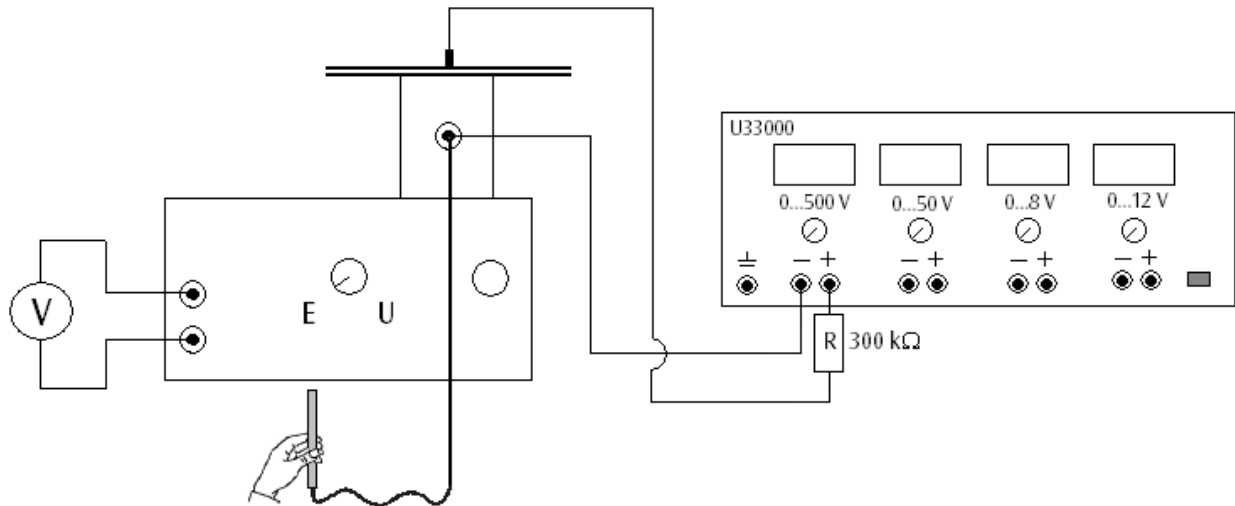

Fig. 2 Determining the field strength inside a plate capacitor
- Set up the experiment as shown in Fig. 2.